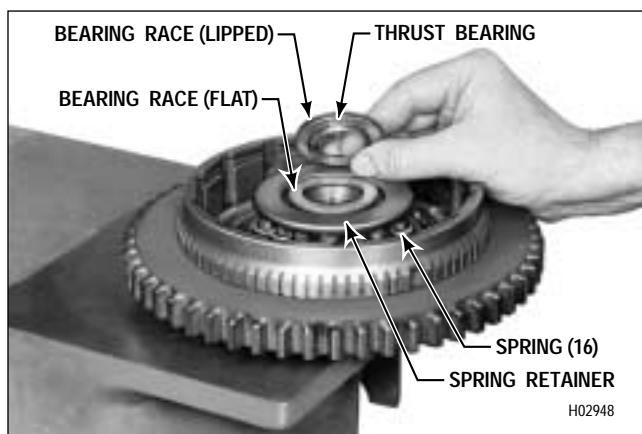

Figure 6-41. Installing Forward Clutch Thrust Bearing
(2) Install sixteen return springs 20 (Foldout 8) into their pockets in the piston (Figure 6-41). Install the spring retainer, recess side first, onto the springs.
(3) Place the clutch assembly in a press, spring retainer upward. Lay snapping 22 (Foldout 8) in its approximate installed position on spring retainer 21.
(5) Install the flat bearing race onto the hub of the forward clutch housing (Figure 6-41). Install the thrust needle bearing and the lipped bearing race so that it encloses the bearing. Retain the bearing and races with oil-soluble grease.